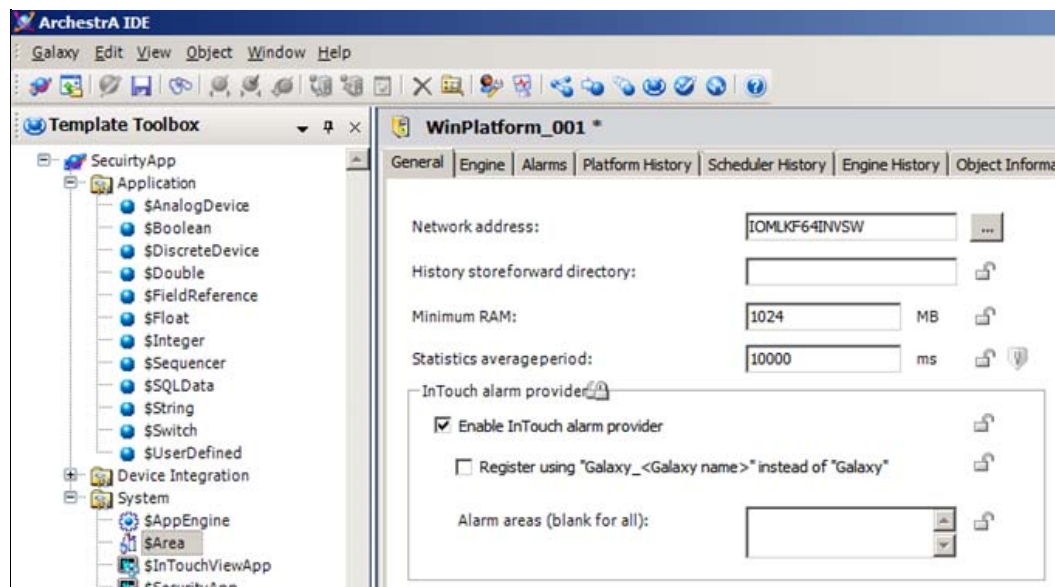

FIGURE 17: ENABLE INTouch ALARM PROVIDER ON THE \$WINPLATFORM INSTANCE
5. Enable InTouch Alarm Provider on the \$WinPlatform_001 (Figure 17 below).